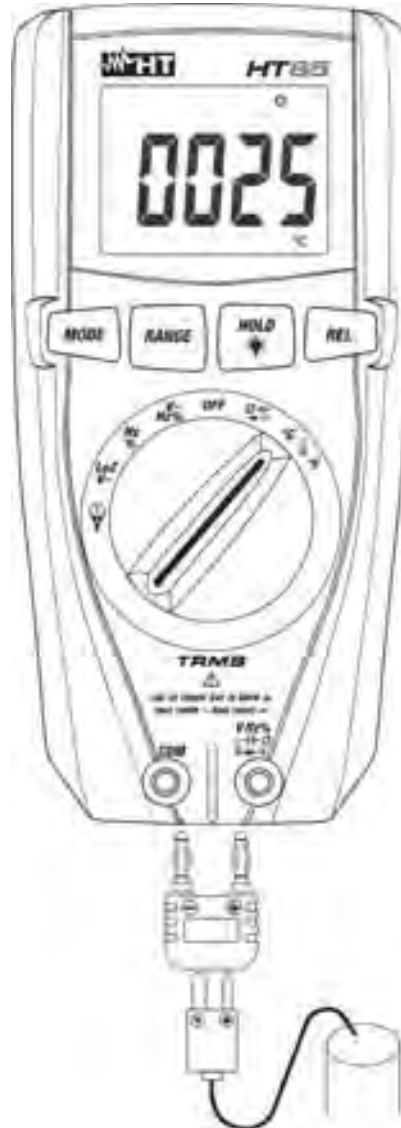

Fig. 9: Use of the instrument for Temperature measurement
2. Insert the provided adapter into input terminals $\left(\text{Hz} \% \text{V} \rightarrow \text{H} \Omega \rightarrow \text{H} \cdot \right)$ (polarity +) and **COM** (polarity -) (see Fig. 9)